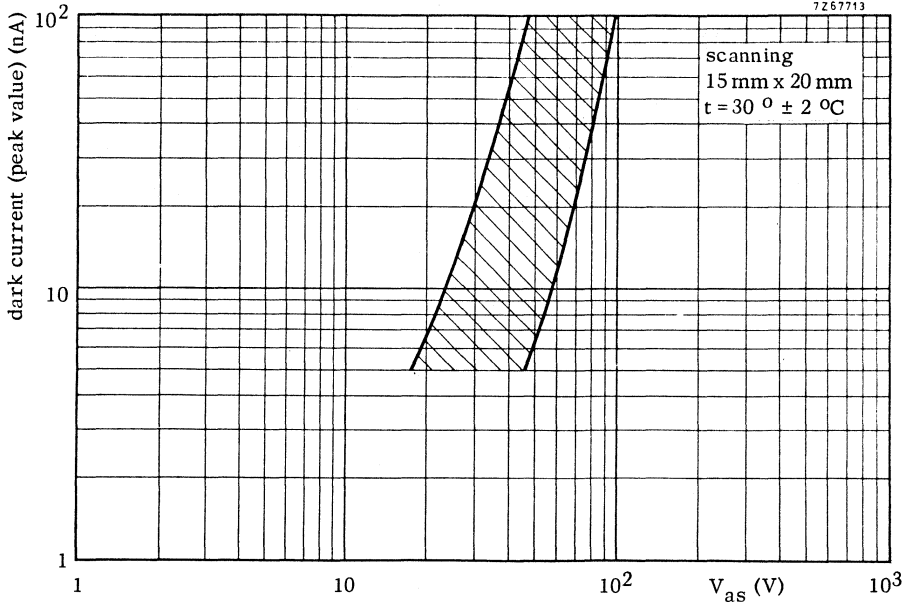

Fig. 2. Dark current range versus signal electrode voltage.
7. The dark current is dependent on the signal electrode voltage and the temperature. This is shown in Figs 2 and 3.